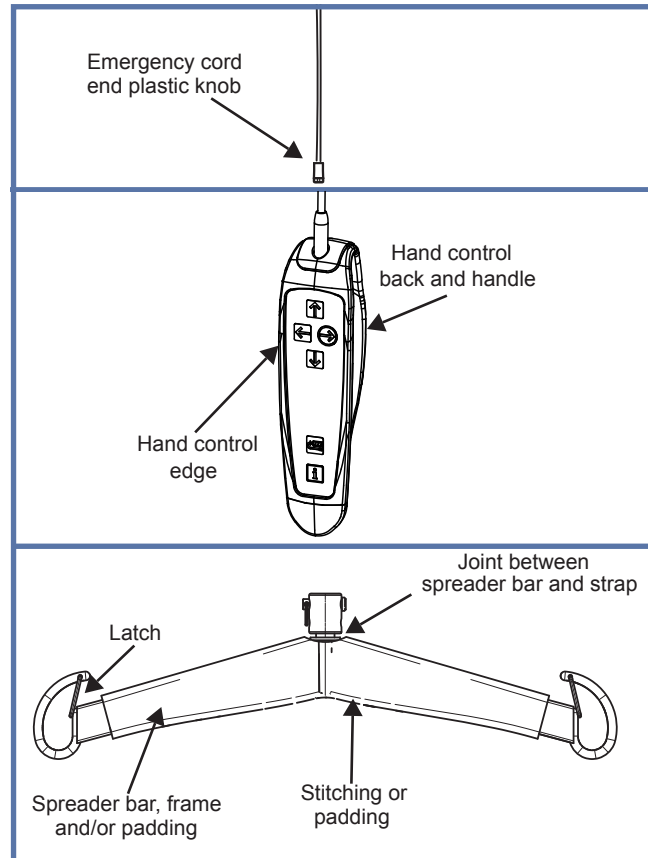

Fig. 52
**NOTE:** Pay special attention to areas pointed in Fig. 52. These are most likely to enclose germs. Use a smaller brush and/or cotton swab to reach them.